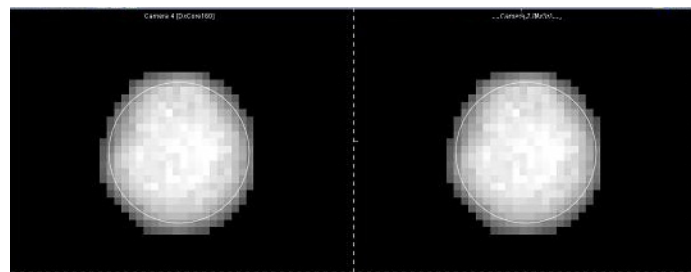

Figure 74: Marker view in Vicon software
7. In the Vicon software, observe the sharpness of the image of the two 25 mm markers; slowly adjust the front focus ring of the camera lens until the two markers appear in sharp focus in the software, as shown in Figure 74.